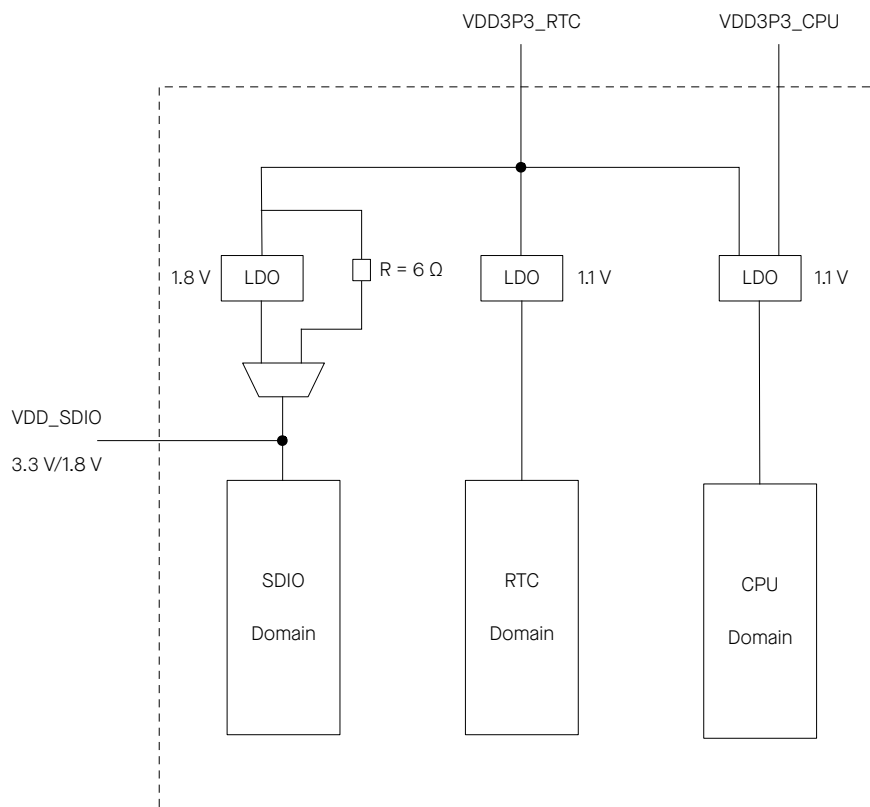

Figure 2-3. ESP32 Power Scheme
1. As the in-package flash (ESP32-U4WDH) and the in-package PSRAM (ESP32-D0WDR2-V3) operate at 3.3 V, VDD_SDIO must be powered by VDD3P3_RTC via a 6 Ω resistor. See Figure 2-3 ESP32 Power Scheme.